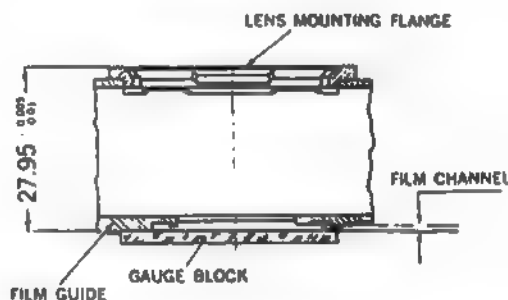

Figure 4-21. Film Plane Measuring Points.
(Fig. 4-21)
- (1) Place the camera housing on the gauge block of gauge set 42-253.01-Z1A76 and rest the outer film guides on the mirror surface (fig. 4-21).
- (2) Measure the distance from the lens flange to the gauge block with the dial gauge. The gauge indicator should read "zero". A tolerance of + 0.005mm or - 0.01mm is permissible.